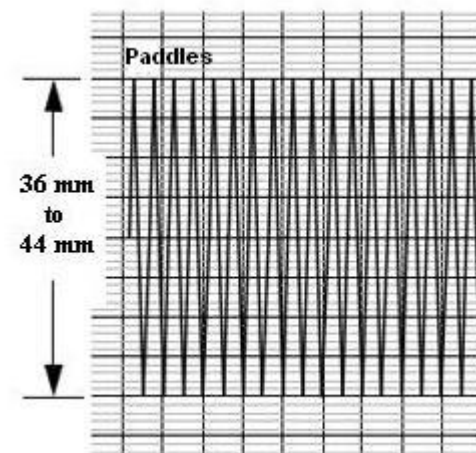

Figure 1.23:
4. Print 10 seconds of paddles ECG and confirm the printed signal amplitude is 36 mm to 44 mm, peak-to-peak as shown in Figure 1.23.